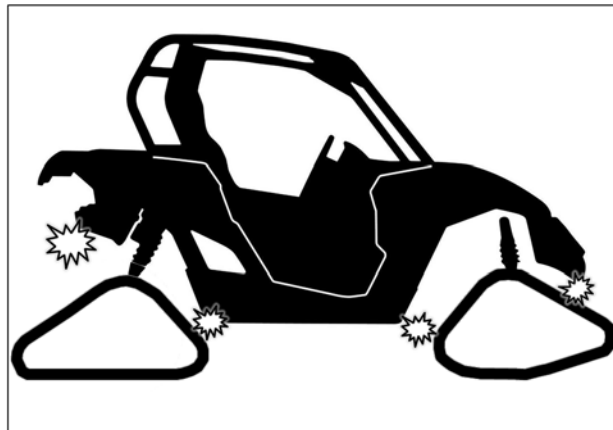

Fig. 28
2. Verify for possible contact between Track System and lower fender corners. See Fig. 28